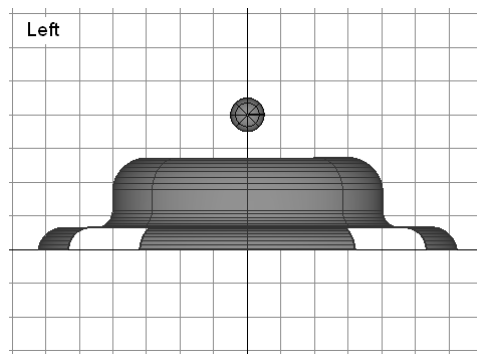

Figure 7-60 Body of the camera
3. Choose the **Sphere** button from the **Surfaces** tab in the **Palette** and create the body of the camera above the base feature, as shown in Figure 7-60.